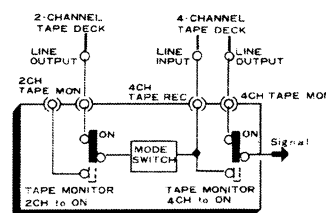

Fig. 24
1. As shown in Fig. 24, connect the 2-channel tape deck for playback to the 2CH TAPE terminals and the 4-channel tape deck for recording to the 4CH TAPE 1 terminals. Refer to the section on Tape Deck Connection for connecting method. See page 9.